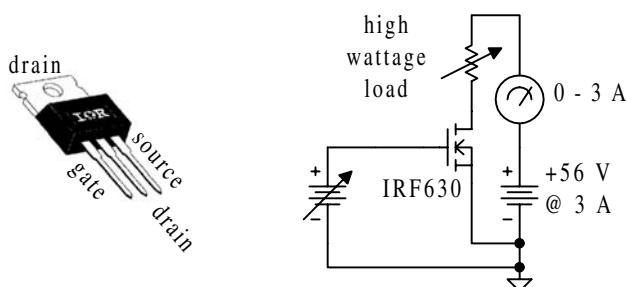

Figure 5-30 V_{GS} versus I_{D} test circuit
1. Build the circuit in Figure 5-30.